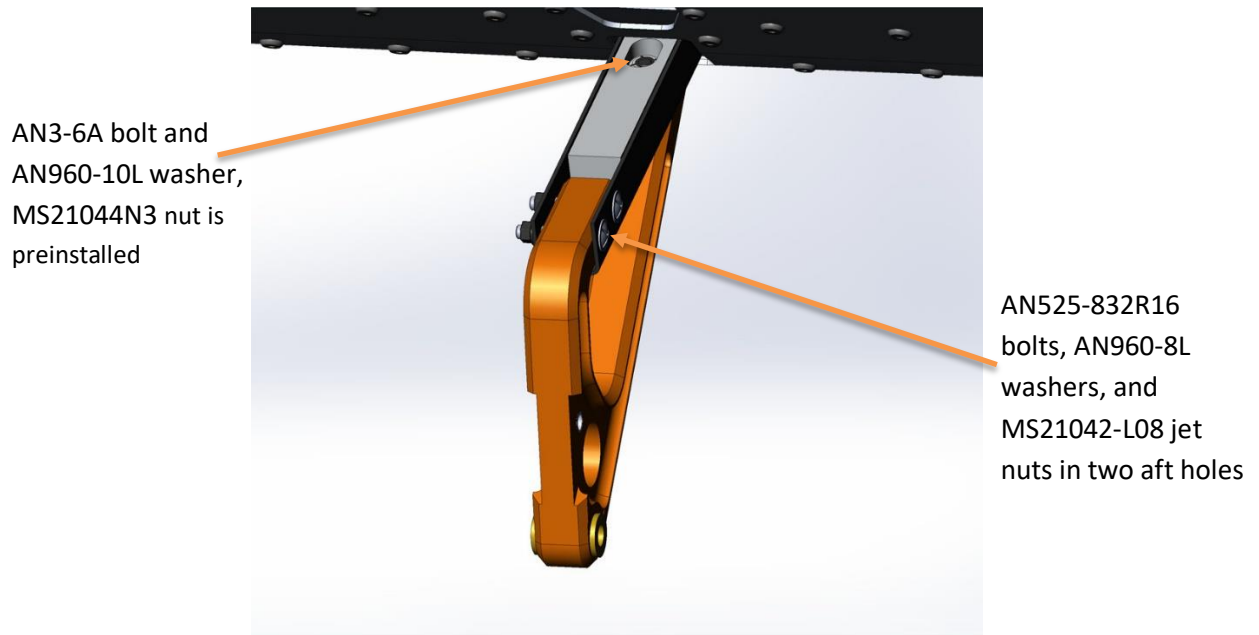

Figure 13: Flap Hanger Extender installed
19. Install the AN525-832R16 bolts with AN960-8L washers and MS21042-L08 jet nuts into the two aft holes in the flap hanger extender. See Figure 13.